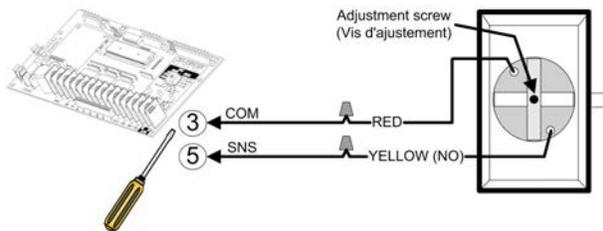
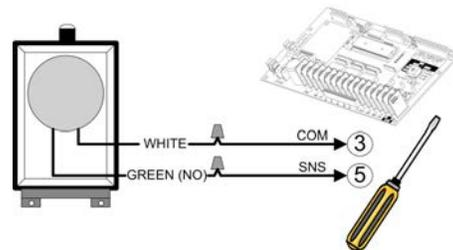

Figure 32 - AIRSWITCH 001 / 007
Figure 33 - AIRSWITCH 009 / 018
3. Use a coil cord or take-up reel to connect the air switch to the operator terminals. Install electric wires according to Figure 32 or Figure 33.